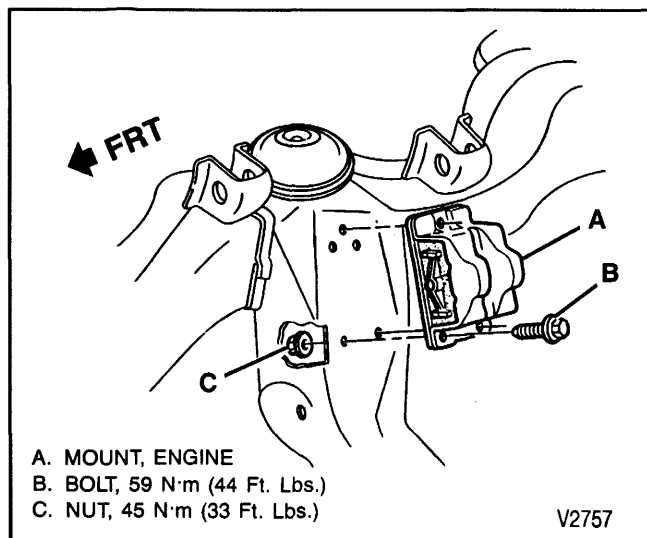

Figure 33—Front Engine Mounting Brackets to Frame (C-Models)
- ↔ Remove or Disconnect (Figures 33, 34, and 35)
- ↔ Install or Connect (Figures 33, 34, and 35)
- Fasteners to specifications. Refer to figures 33, 34, and 35.
- Through-bolt nut to specifications. Refer to figures 33, 34, and 35.
Install or Connect (Figures 33, 34, and 35)